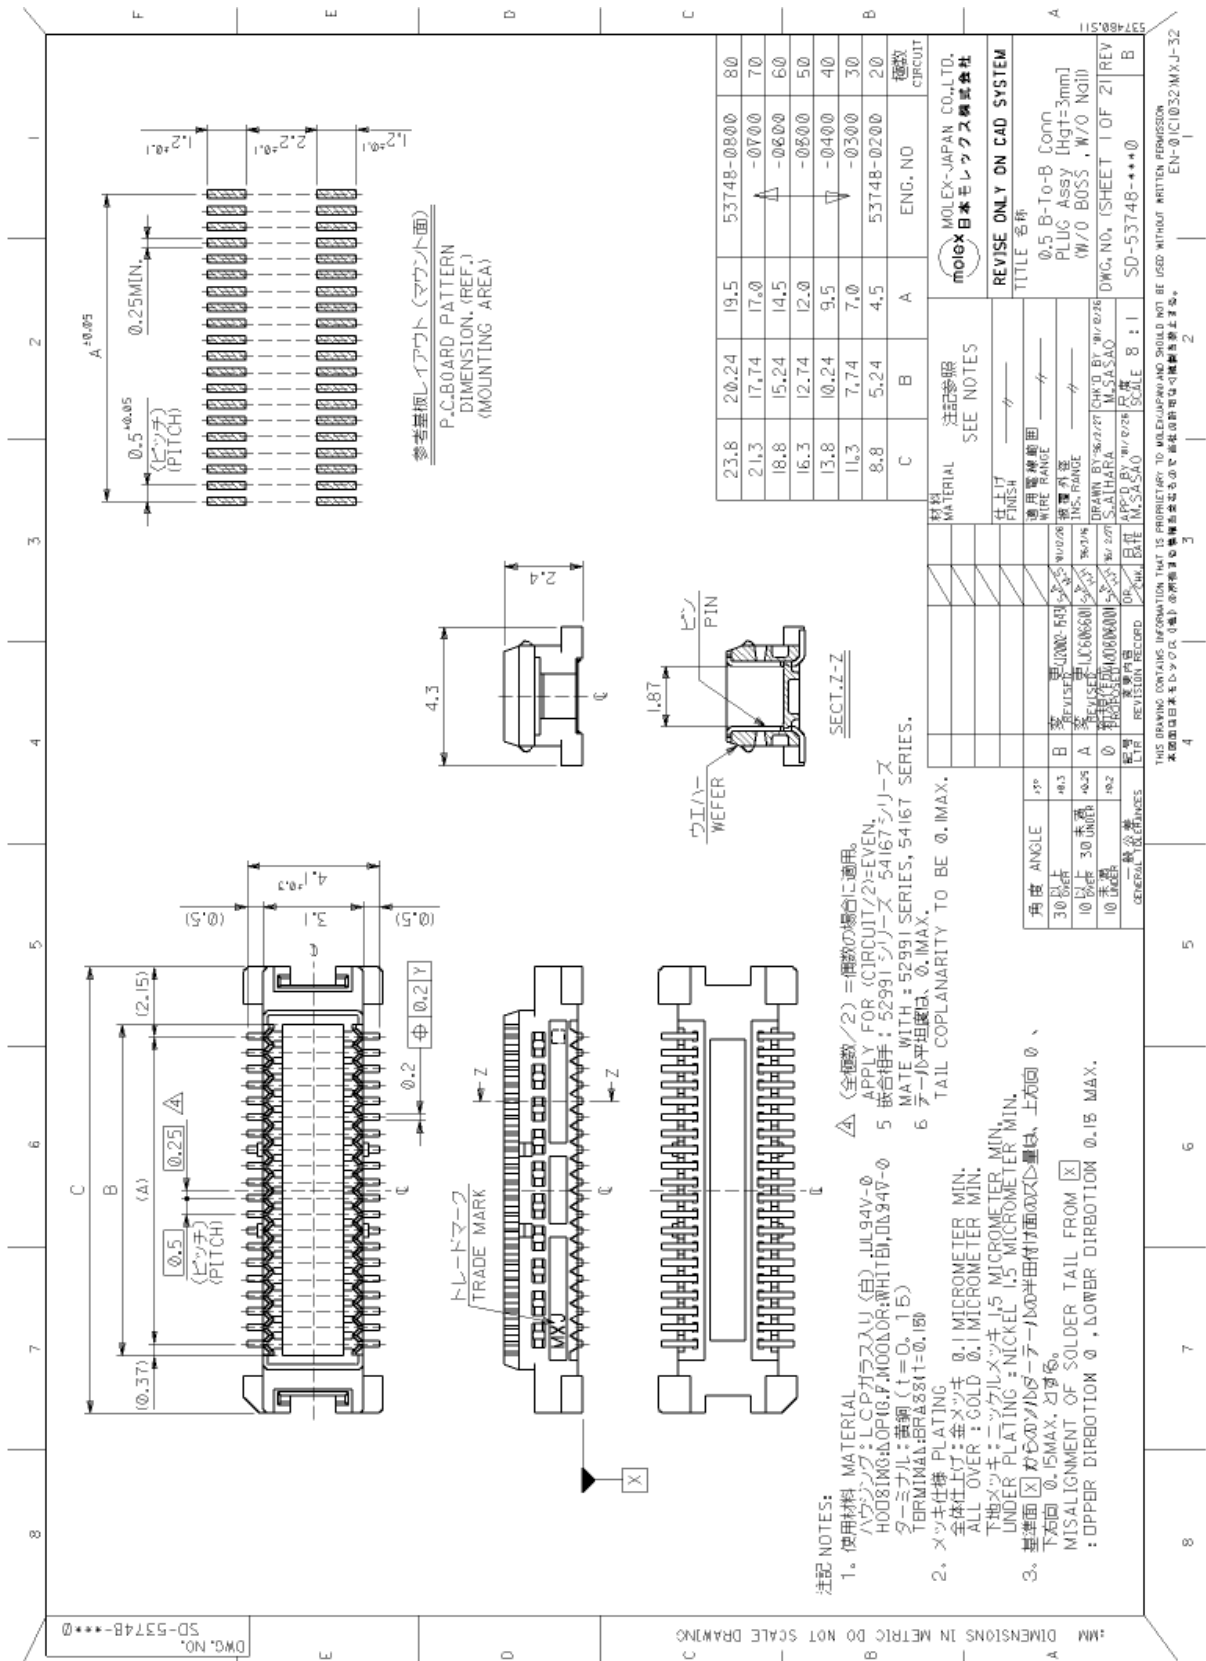

Figure 38: Mating board-to-board connector 53748-0808 on application
- 53748-0808 SlimStack Plug, 3mm stacking height, see Figure 38 for details.